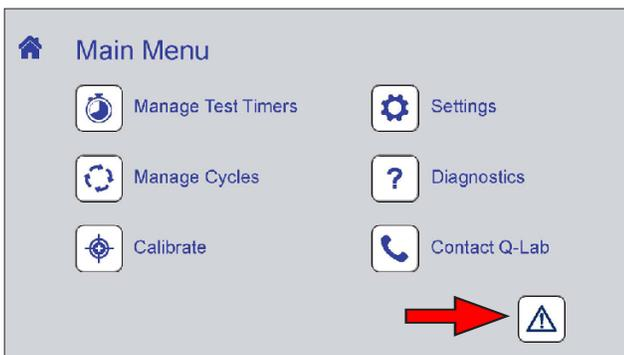

Figure 11.5a: The notifications icon. Icon color changes depending on notification status.
- On the Main Menu screen, touch the notification icon to display the Notifications Screen (Figure 11.5a).